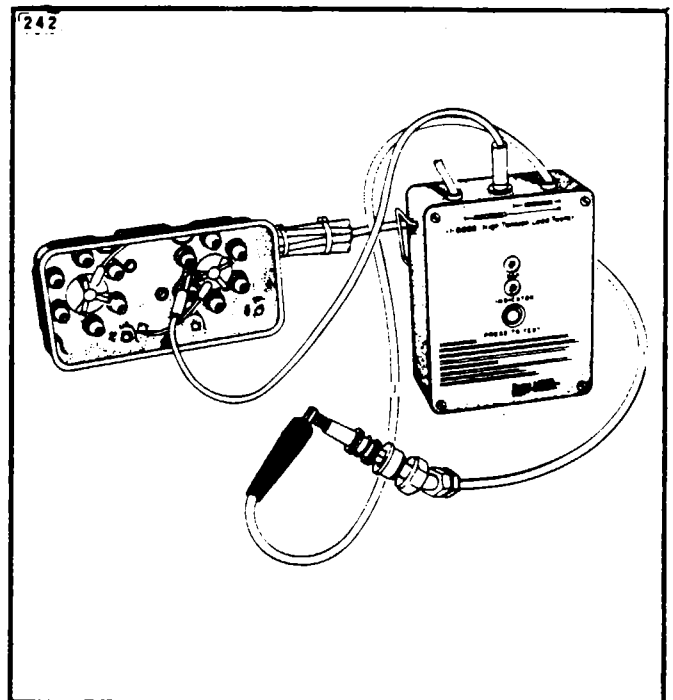

Figure 8-23. Checking Harness Lead Continuity
1. Connect black test lead to contact spring and red lead to eyelet of the same lead. (Refer to Figure 8-23.)